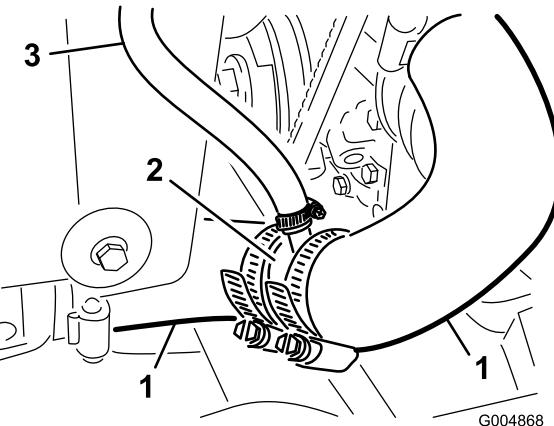
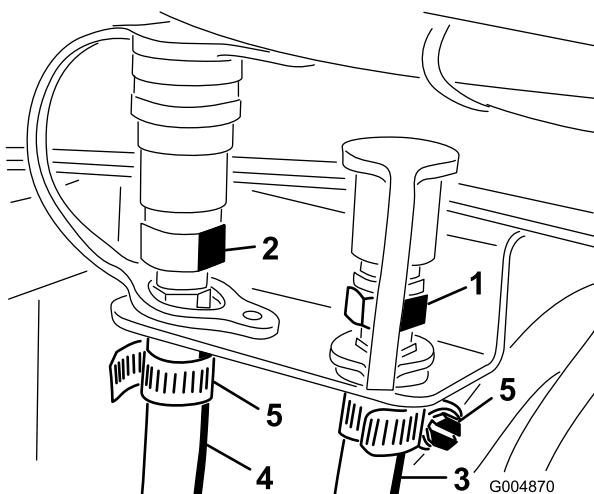
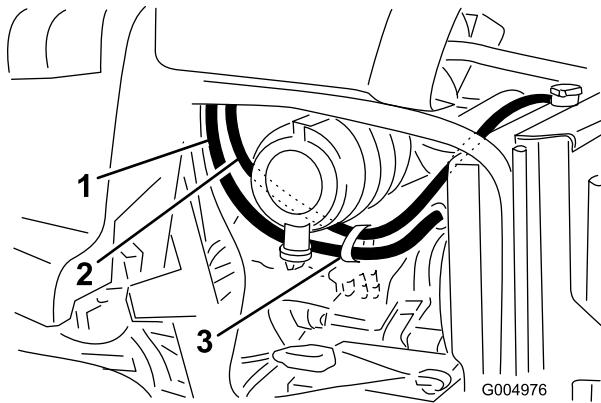
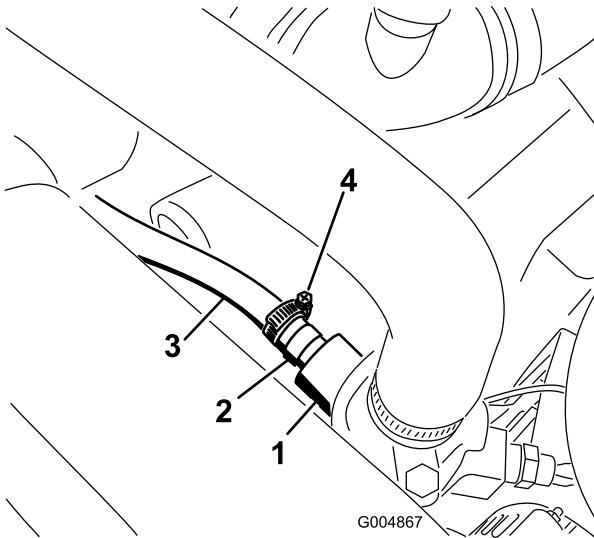

Figure 18
Figure 19
Figure 20
Figure 22
14. Install the tee fitting into the hoses and secure with hose clamps as shown in Figure 18.
15. Connect the 55 inch (140 cm) length of previously cut hose to the new tee fitting in the radiator hose (Figure 18). Secure the hose to the tee fitting with a hose clamp. Route the hose behind the radiator over flow tank, up the right side of the radiator, across the top of the radiator to the left side and under the air cleaner as shown in Figure 20. Insert a hose clamp onto the hose and connect the hose to the nipple coupling (Figure 19). This is the return hose.
17. Install the hose adapter fitting into the engine thermostat housing (Figure 22).
18. Connect the 22-1/2 inch (57 cm) length of hose to the engine thermostat housing adapter fitting (Figure 22). Secure the hose to the adapter fitting with a hose clamp. Route the hose under the air cleaner as shown in Figure 20. Install a hose clamp onto the hose and connect the hose to the quick coupler Figure 19). This is the pressure hose.
Note: Route the hoses away from any hot, rotating or sharp objects. Secure the two coupler hoses together with a cable tie as shown in Figure 20.